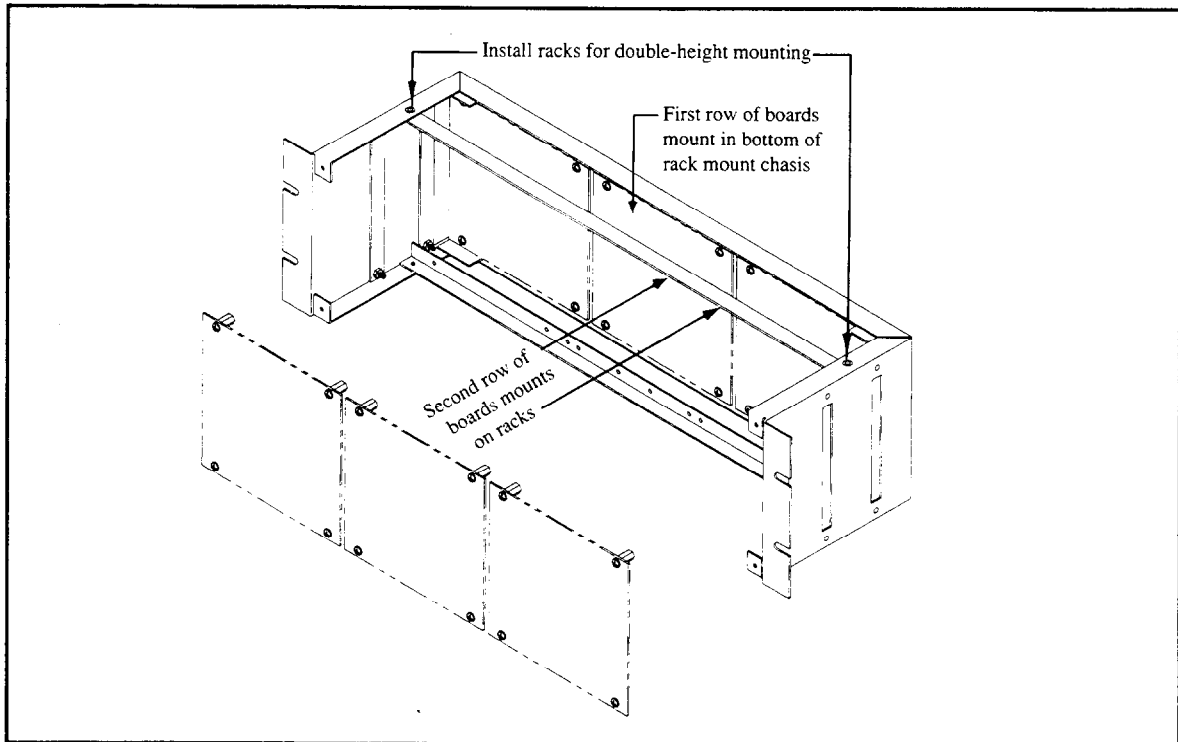

Figure 5-3. Double-Height Mounting
- If you are planning to use more than two SC-206X Series boards with one SC-205X Series board, double-height mounting within one rack-mount chassis is possible. You need a hardware kit for double-height mounting (see *Optional Equipment* in Chapter 1), which consists of two brackets that mount in the rack mount. You can mount a second row of SC-205X Series and SC-206X Series boards on these brackets the same way you mount the first row. Figure 5-3 illustrates double-height mounting.